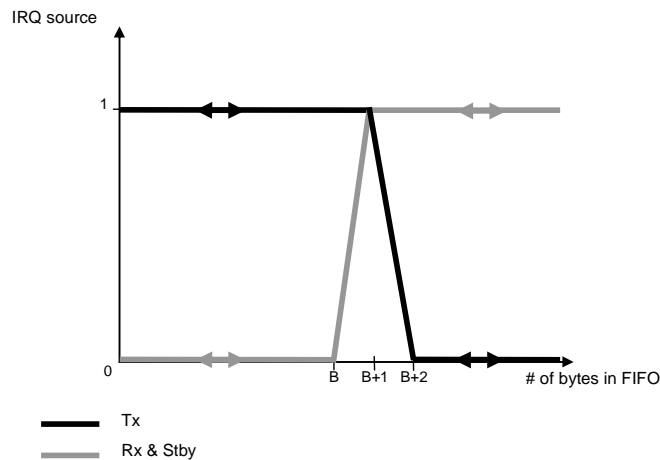

Figure 32: FIFO Threshold IRQ Source Behavior
- `Fifo_threshold`: `Fifo_threshold` interrupt source's behavior depends on the running mode (Tx, Rx or Stby mode) and the threshold itself can be programmed via `MCPParam_Fifo_thresh` (B value). Full behavior is described in Figure 32.